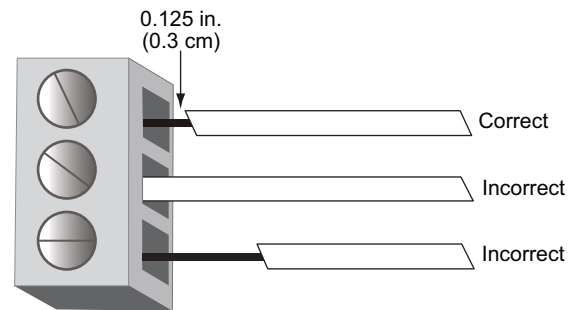

Fig. 5 — Correct vs. Incorrect Connections
- Do not allow more than 0.125 inch (0.3 cm) bare communication wire to protrude. See Fig. 5.